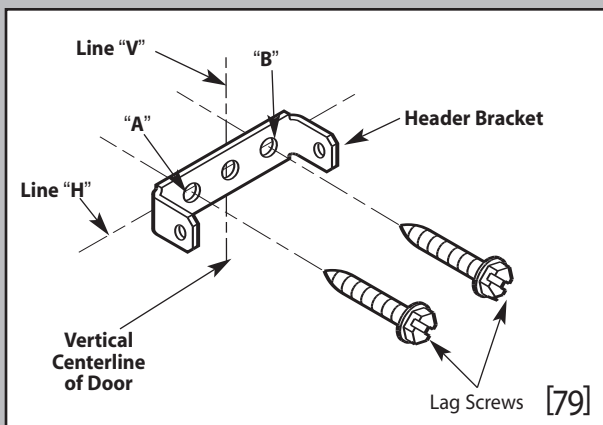
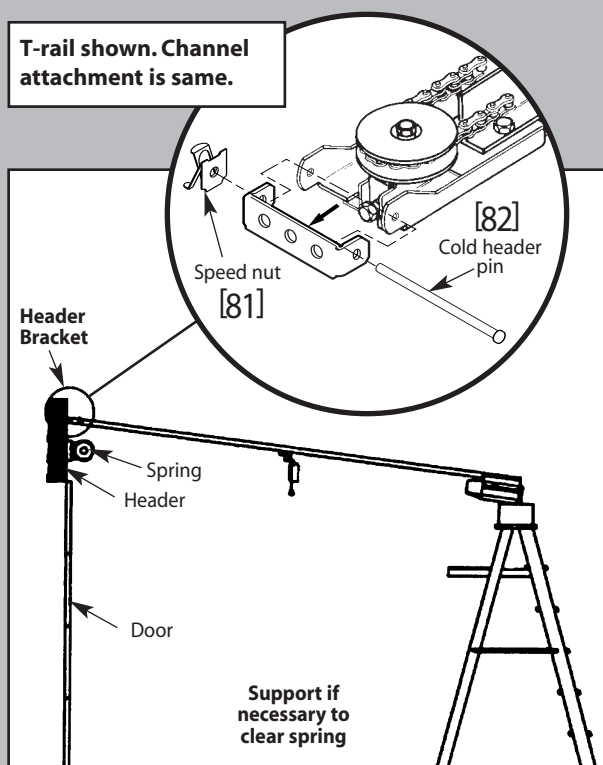

Fig. 2-3
Fig. 2-4
3. Install header bracket (Fig. 2-3)
- Fasten bracket to header using two (2) 1/4” x 2” lag screws [79].
4. Attach channel/rail assembly to header bracket (Fig. 2-4).